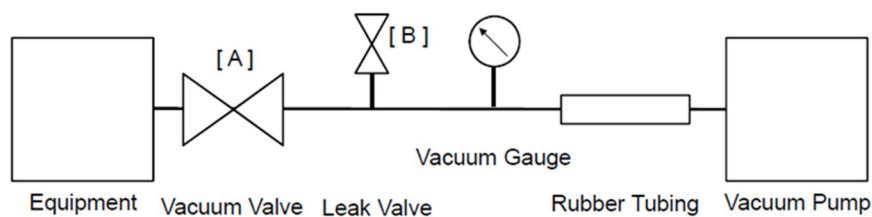

Fig. 13 Connection with Vacuum System for PVD-180, PVD-360
- 3) Installation of a vacuum valve, a leak valve and a vacuum gauge between the equipment and the vacuum pump is required for PVD-180 and PVD-360 as shown in Fig.13. When the pump stops, shut the vacuum valve [A] to keep the equipment in vacuum, then open the leak-valve [B] and let air into the pump to prevent from counter-flow of the rotary vacuum pump oil in the pump.
Re-check prescribed installations once more and operate your pump as shown Fig.13, PVD-180 and PVD-360, in accordance with the following procedures to obtain the specific performance of the pump.